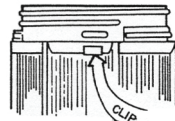

FIGURE 3
1. VMV Champ® series luminaire globe cat. no. G24 use an integral guard cat. no. P21. Thread segments of both guard and globe are of unequal length (keyed) to insure proper globe and guard thread match upon assembly. The clip that is attached to the guard helps to secure the guard to the globe. See figure 3.